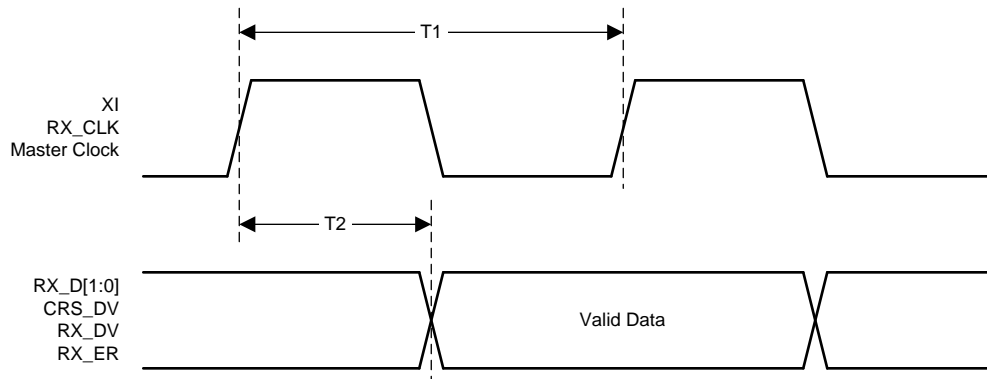

Figure 9. RMII Receive Timing
(1) Ensured by production test, characterization or design.
(2) See Figure 9.